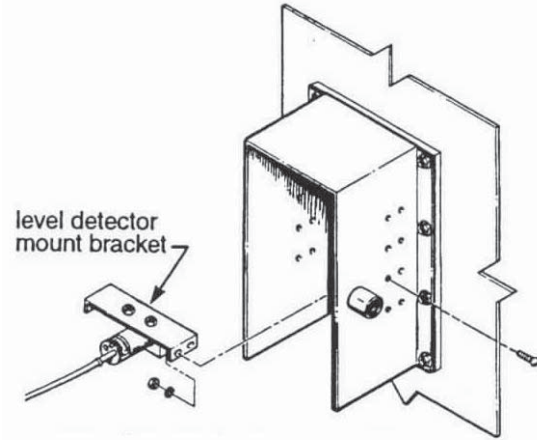

Figure 34 - Level Detector
**Level Detector Vertical Position** There are four vertical positions the level detector can be adjusted to (see Figure 34). Remove mounting hardware and adjust to the preferred level. Tighten hardware.